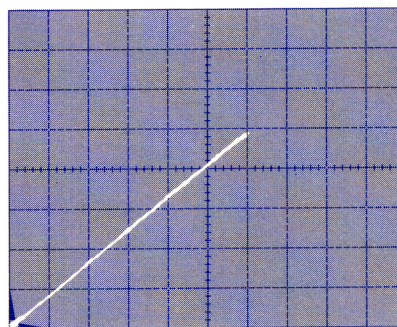

Figure 6-1. Display of interbase resistance r_{BB} .
- 3) Apply power to device — Position LEFT-RIGHT switch on 177 to appropriate side. Increase VARIABLE COLLECTOR % supply until horizontal displacement corresponds to specified voltage. [6.0 divs, or 3.0 V]. See Figure 6-1. 34 8